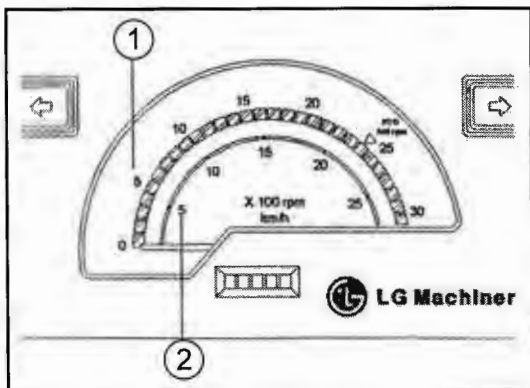

Fig. 11-1 — Speedometer/ Tachometer
1. **Speedometer/Tachometer** - (1) Shows the engine speed in RPM. (2) Shows the actual travel speed in km/h. (See Fig. 11-1).